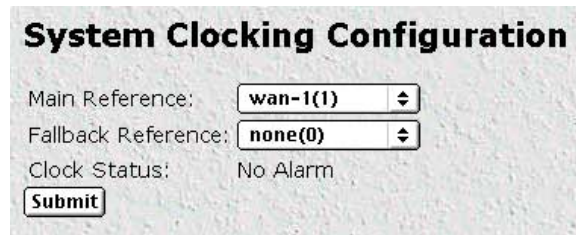

Figure 23. System Clocking Configuration window
2. Connect your T1/E1 WAN connection to WAN Port #1 on the rear panel of the DACS. Assuming this is the WAN link you wish to use as the Main Reference, set Main Reference to *wan-1(1)* (see figure 23).